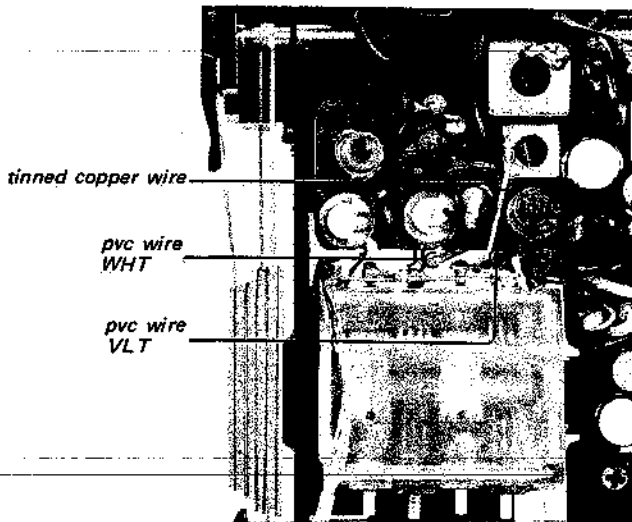

Fig. 1-5.
2. Unsolder the three wires shown in Fig. 1-5.